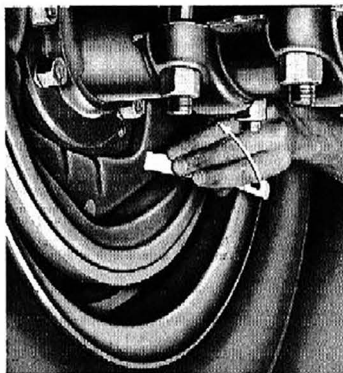

Fig. 54—Adjusting  $1\frac{1}{2}$  and 2 Ton Rear Brakes
2. Turn rear adjusting screw (fig. 54) until a moderate dragging contact is felt on the brake drum and then back off 3 notches.